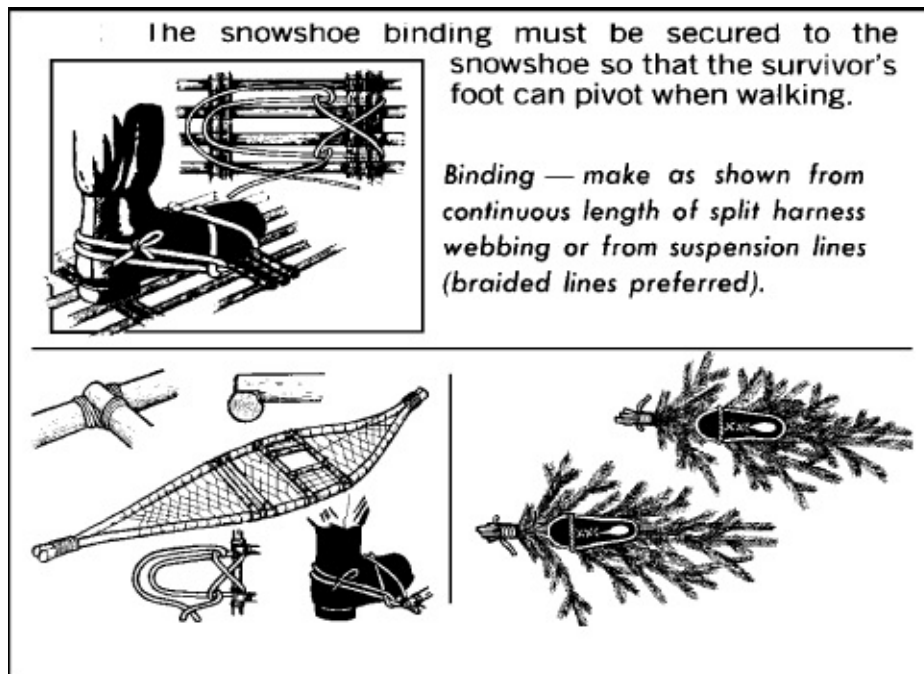

Figure 2-10. Improvised snowshoes
- (1) Reduced daylight hours (**BE AWARE**).
(2) Deep soft snow (if movement is necessary, make snowshoes [Figure 2-10]). Travel is easier in early morning or late afternoon near dusk when snow is frozen or crusted.
(3) Avalanche prone areas to avoid: